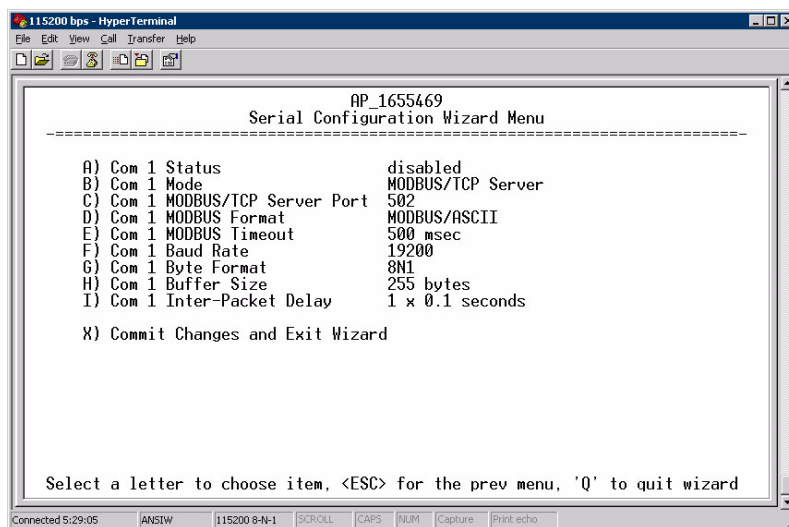

Figure 3-61. Serial Configuration Summary Screen
8. Review all settings on the summary screen shown in Figure 3-61. If all settings are correct, press **X** to confirm and exit the wizard. If not, select the letter of the item(s) you wish to change.